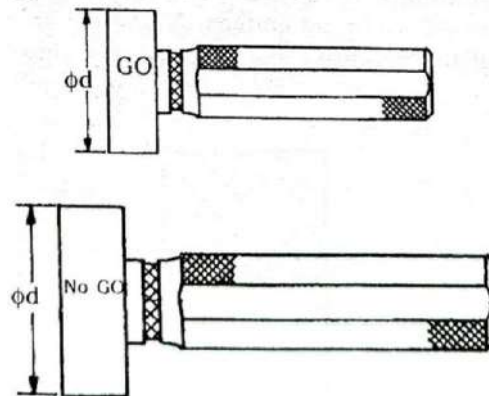

Fig. 2 Single Ended Plug Gauges
- The plug gauges are normally double ended for sizes upto 63 mm and for sizes above 63 mm they are single ended type as shown in the **Fig. 2.** below